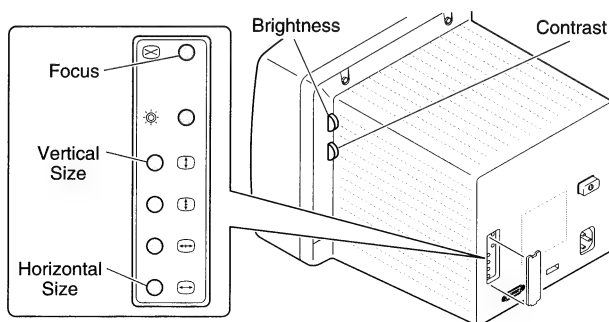

Figure 4 Size and Focus Controls
1. FIGURE 4. Set the brightness control to detent (midrange) and the contrast control to maximum (turn clockwise).
3. FIGURE 4. Using the plastic screwdriver, turn the Horizontal Size control until the raster is 213.5 mm wide.
2. FIGURE 4. Using the plastic screwdriver, turn the Vertical Size control until the raster is 160 mm high.
3. FIGURE 4. Using the plastic screwdriver, adjust the Focus control for best focus at the center of the screen.